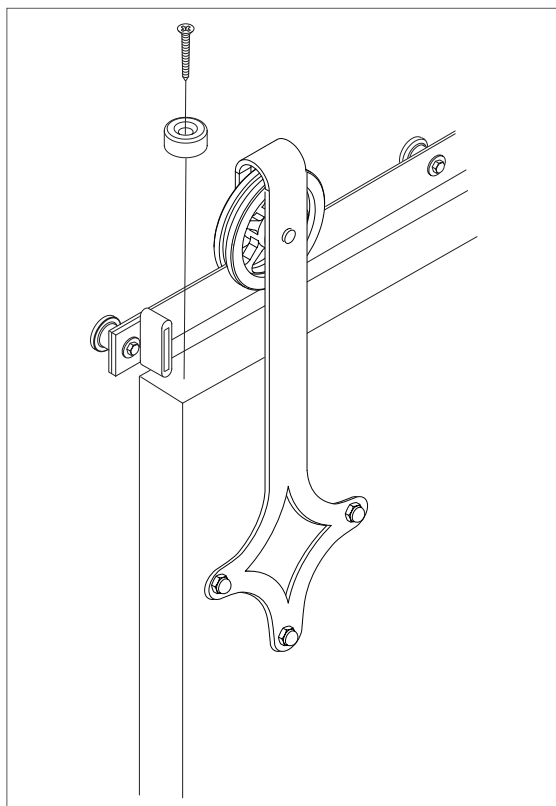

Figure 10
20. Place the anti-jump block on the top of the door (Figure 10). Using a drill with a phillips bit, install the block with the 1" phillips screw (provided).